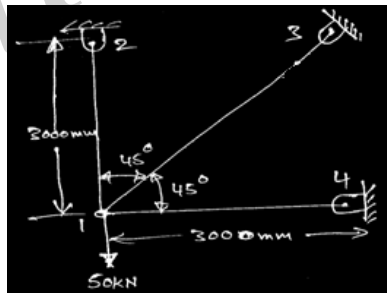

Fig: 2
- For the plane truss composed of three elements shown in Fig: 2 subjected to a downward force of 50 k N applied at node 1. Determine the x and y displacements at node 1 and the stresses in each element. Assume $E=200 \text{ G pa}$ and $A=1000 \text{ mm}^2$ for all elements.